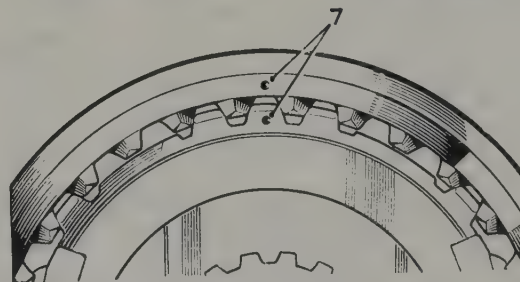

Fig. 6.30. Synchromesh unit inner and outer alignment marks (7)
- 5 To reassemble 1st/2nd unit lay the sleeve (gear side downward) on a clean surface. Fit the hub (internal splined side leading) so that the alignment marks "7" (Fig. 6.30) correspond.